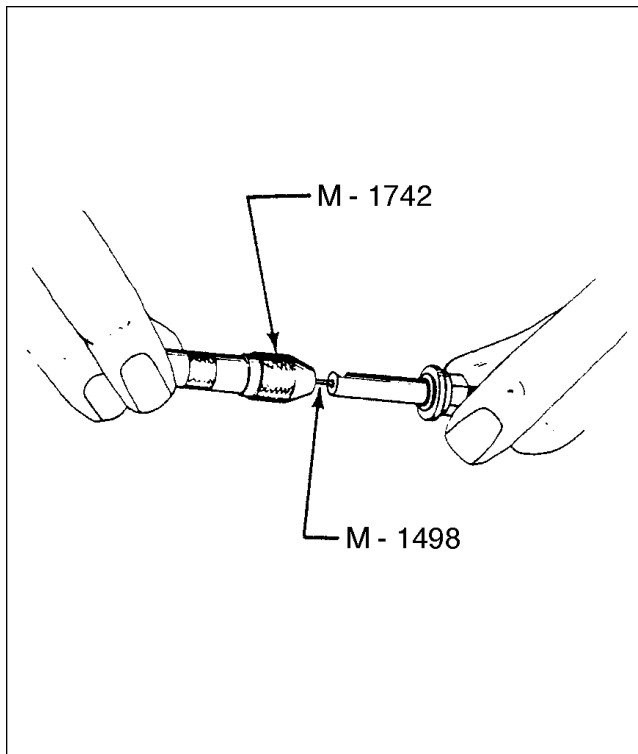

Figure 8-31. Installation of Electrical Screw
5. Insert the tapered pin of the electrode screw into the center of the coiled conductor by turning the pin vise counterclockwise and pushing at the same time until the screw is flush with the insulation. Refer to Figure 8-31.